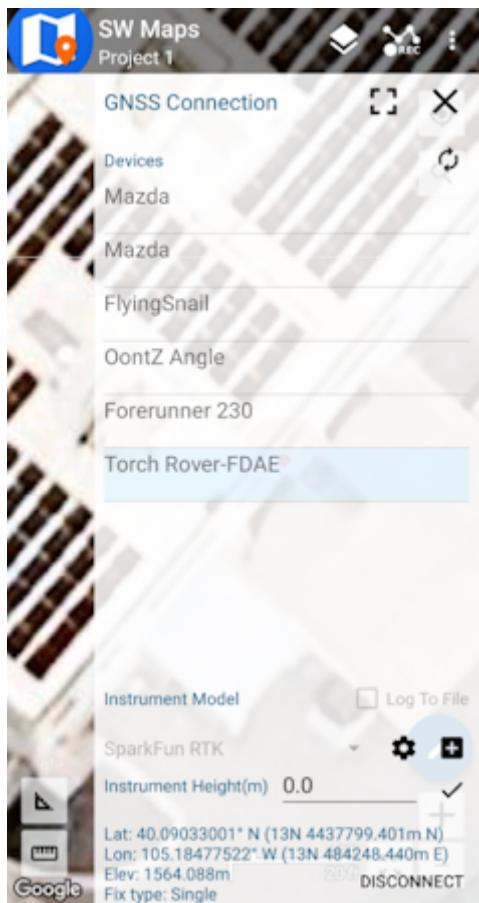

Figure 4
- Press the SW Maps icon in the top left corner of the home screen and select **Bluetooth GNSS**. You should see the 'Torch Rover-3AF1' in the list. Select it. Confirm that the *Instrument Model* is **SparkFun RTK**, then press the 'Connect' button in the bottom right corner (Figure 4). SW Maps will show a warning that the instrument height is 0m. That's ok.